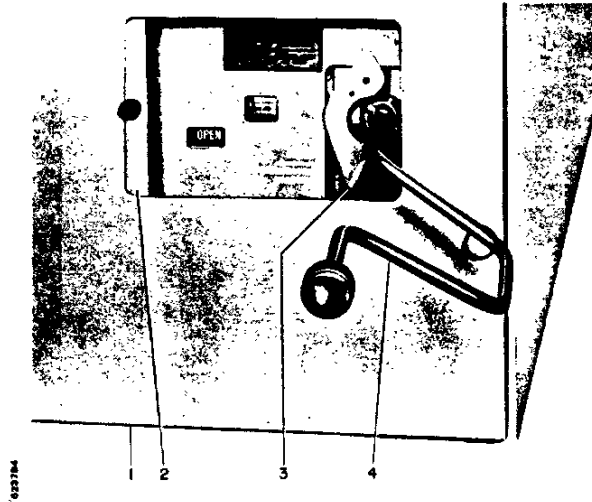

Fig. 4 — Method of Racking Circuit Breaker
ENGAGE RACKING CRANK (4, FIG. 4) AND PUSH RACKING UNLOCKING LEVER (3) TO LEFT, THEN ROTATE RACKING CRANK COUNTERCLOCKWISE ONLY UNTIL RESISTANCE TO MOTION IS FELT. (DO NOT FORCE.) IF CLOSING SPRINGS WERE LEFT IN CHARGED CONDITION, THEY WILL AUTOMATICALLY DISCHARGE.
TO RACK CIRCUIT BREAKER TO "TEST" POSITION, PUSH RACKING UNLOCKING LEVER (3, FIG. 4) TO LEFT, ROTATE RACKING CRANK APPROXIMATELY 1/4 TURN CLOCKWISE, THEN RELEASE UNLOCKING LEVER. CONTINUE CRANKING UNTIL RACKING MECHANISM AUTOMATICALLY STOPS AT "TEST" POSITION.
FOR SAFETY: WHEN RACKING CIRCUIT BREAKER TO "CONNECTED" POSITION, CLOSE COMPARTMENT DOOR (1,FIG.4) AND INSERT RACKING CRANK (4,FIG.4) THROUGH SLIDING PANEL (2,FIG.4).
CIRCUIT BREAKER REMOVAL (SEE FIG.4)